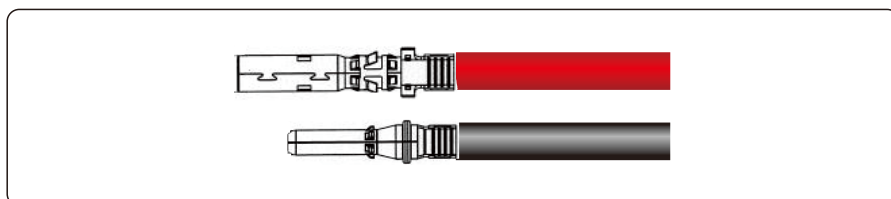

Figure 5.12 Crimping a metal connector
Step 2 Insert the exposed areas of the positive and negative power cables into the metal terminals of the positive and negative connectors respectively and crimp them using a crimping tool, as shown in Figure 5.12.